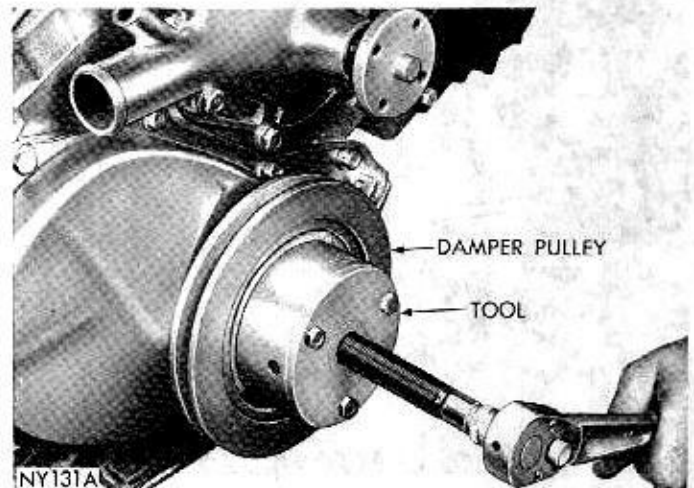

Fig. 18—Removing Vibration Damper Assembly
- Install Tool C-3732A and pull vibration damper assembly off end of crankshaft (Fig. 18).